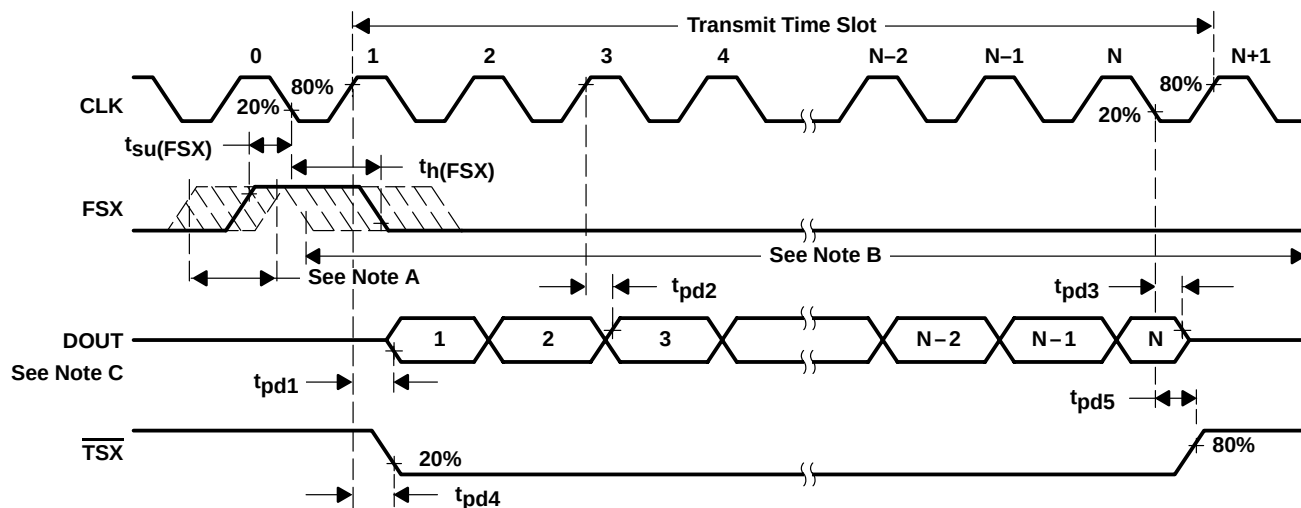

Figure 2. Fixed-Data Rate Mode, Transmit Side Timing Diagram
**transmit timing requirements over recommended ranges of supply voltage and operating free-air temperature, fixed-data-rate mode (see Figure 2)**
**propagation delay times over recommended ranges of operating conditions, fixed-data-rate mode,  $C_L = 0$  to 10 pF (see Figure 2)**